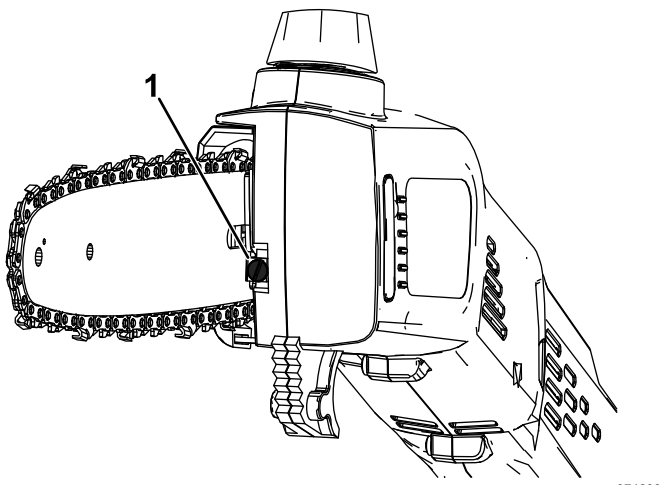

Figure 19
5. Adjust the chain tension using the chain tensioning screw (Figure 19), and then secure the side cover to the pole saw by turning the bar cover knob clockwise before checking the tension (Figure 18).
3. Loosen the chain by turning the chain-tightening screw counterclockwise (Figure 19).